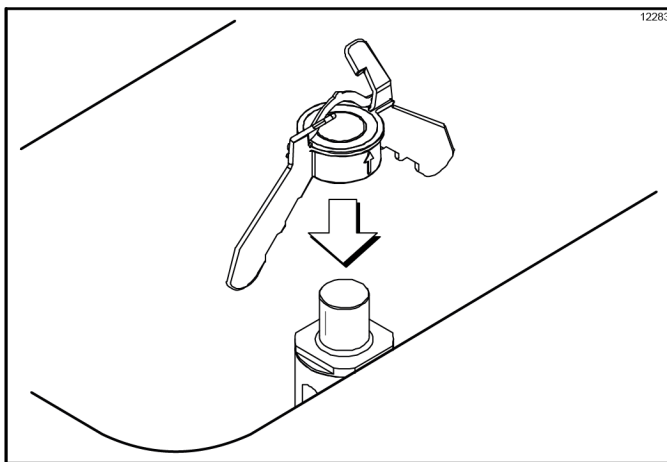

Figure 6-48
13. Place the agitator on the agitator driveshaft housing. (See Figure 6-48.)